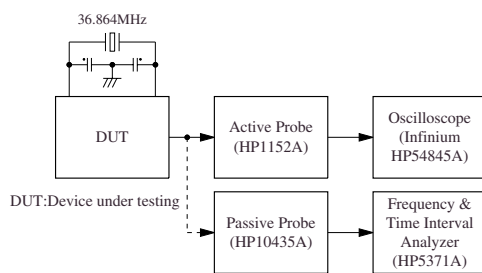

Figure 1. Measurement circuit 1
2. The numeric values are measured values using the circuit in Figure 1 and the NPC standard evaluation board.